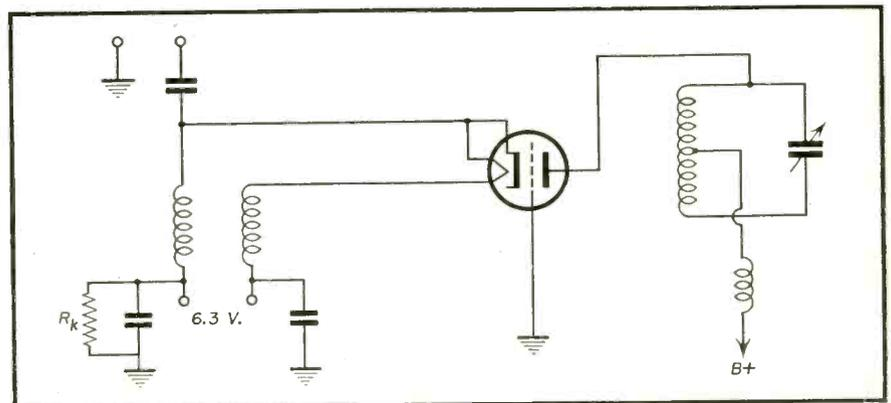

Fig. 4. Application of Type 5768 tube in l-f circuit.
*Figure 4* is a low frequency circuit showing how the components may be arranged in an equivalent circuit. Grounding the grid lowers the plate to cathode capacity to a maximum of 0.015 uufd; the grid to cathode (input) and grid to plate (output) capacities are about 1.0 uufd each. In a normal triode, unless it is neutralized, r-f amplification is impossible at high frequencies without oscillations. These oscillations occur because of feedback through the grid to plate capacity. This is reduced by the shielding action of the grounded grid. The grid is above ground by the drop across its resistor, the r-f signal input adds to or subtracts from this cathode voltage